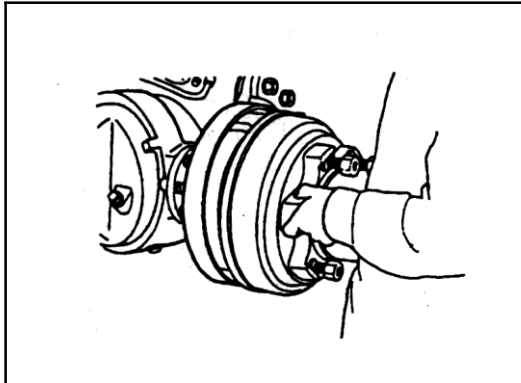

Figure5-4
- 4) Remove the brake drum and wheel hub (see Figure 5-4);